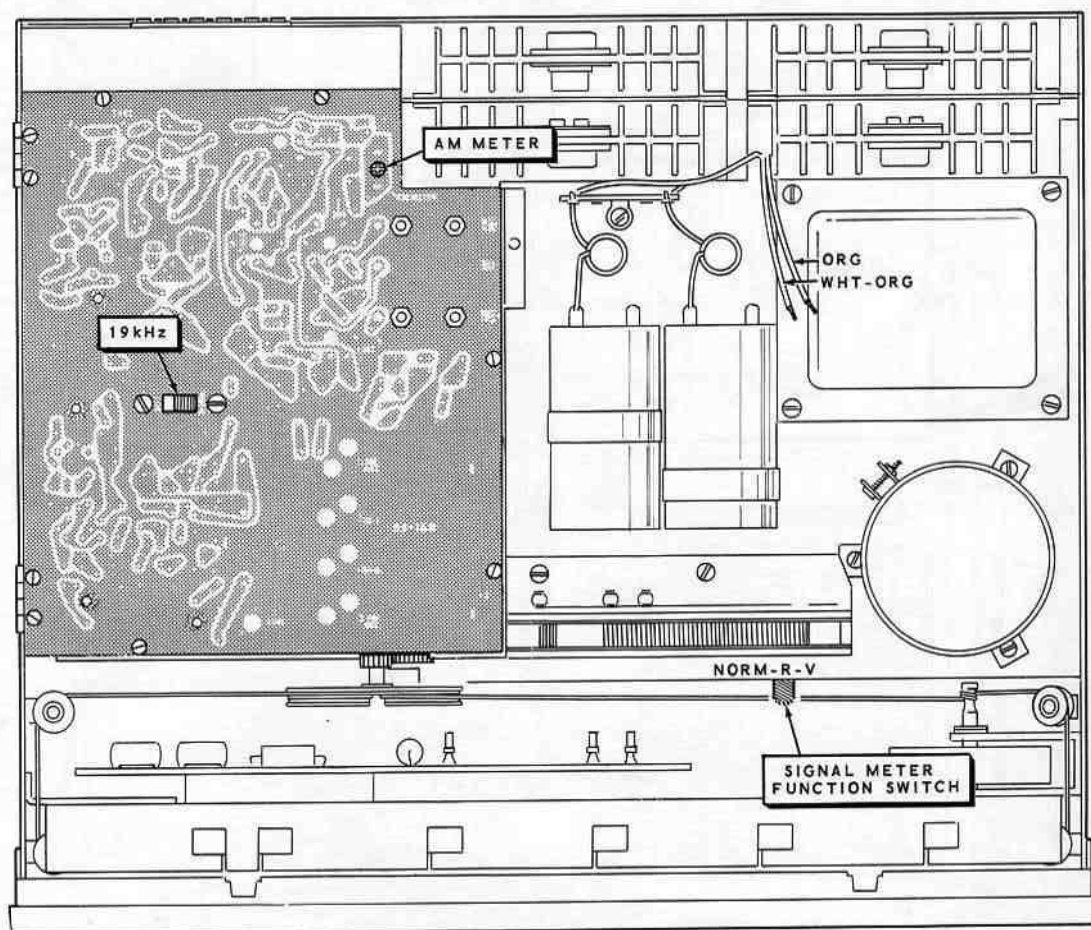
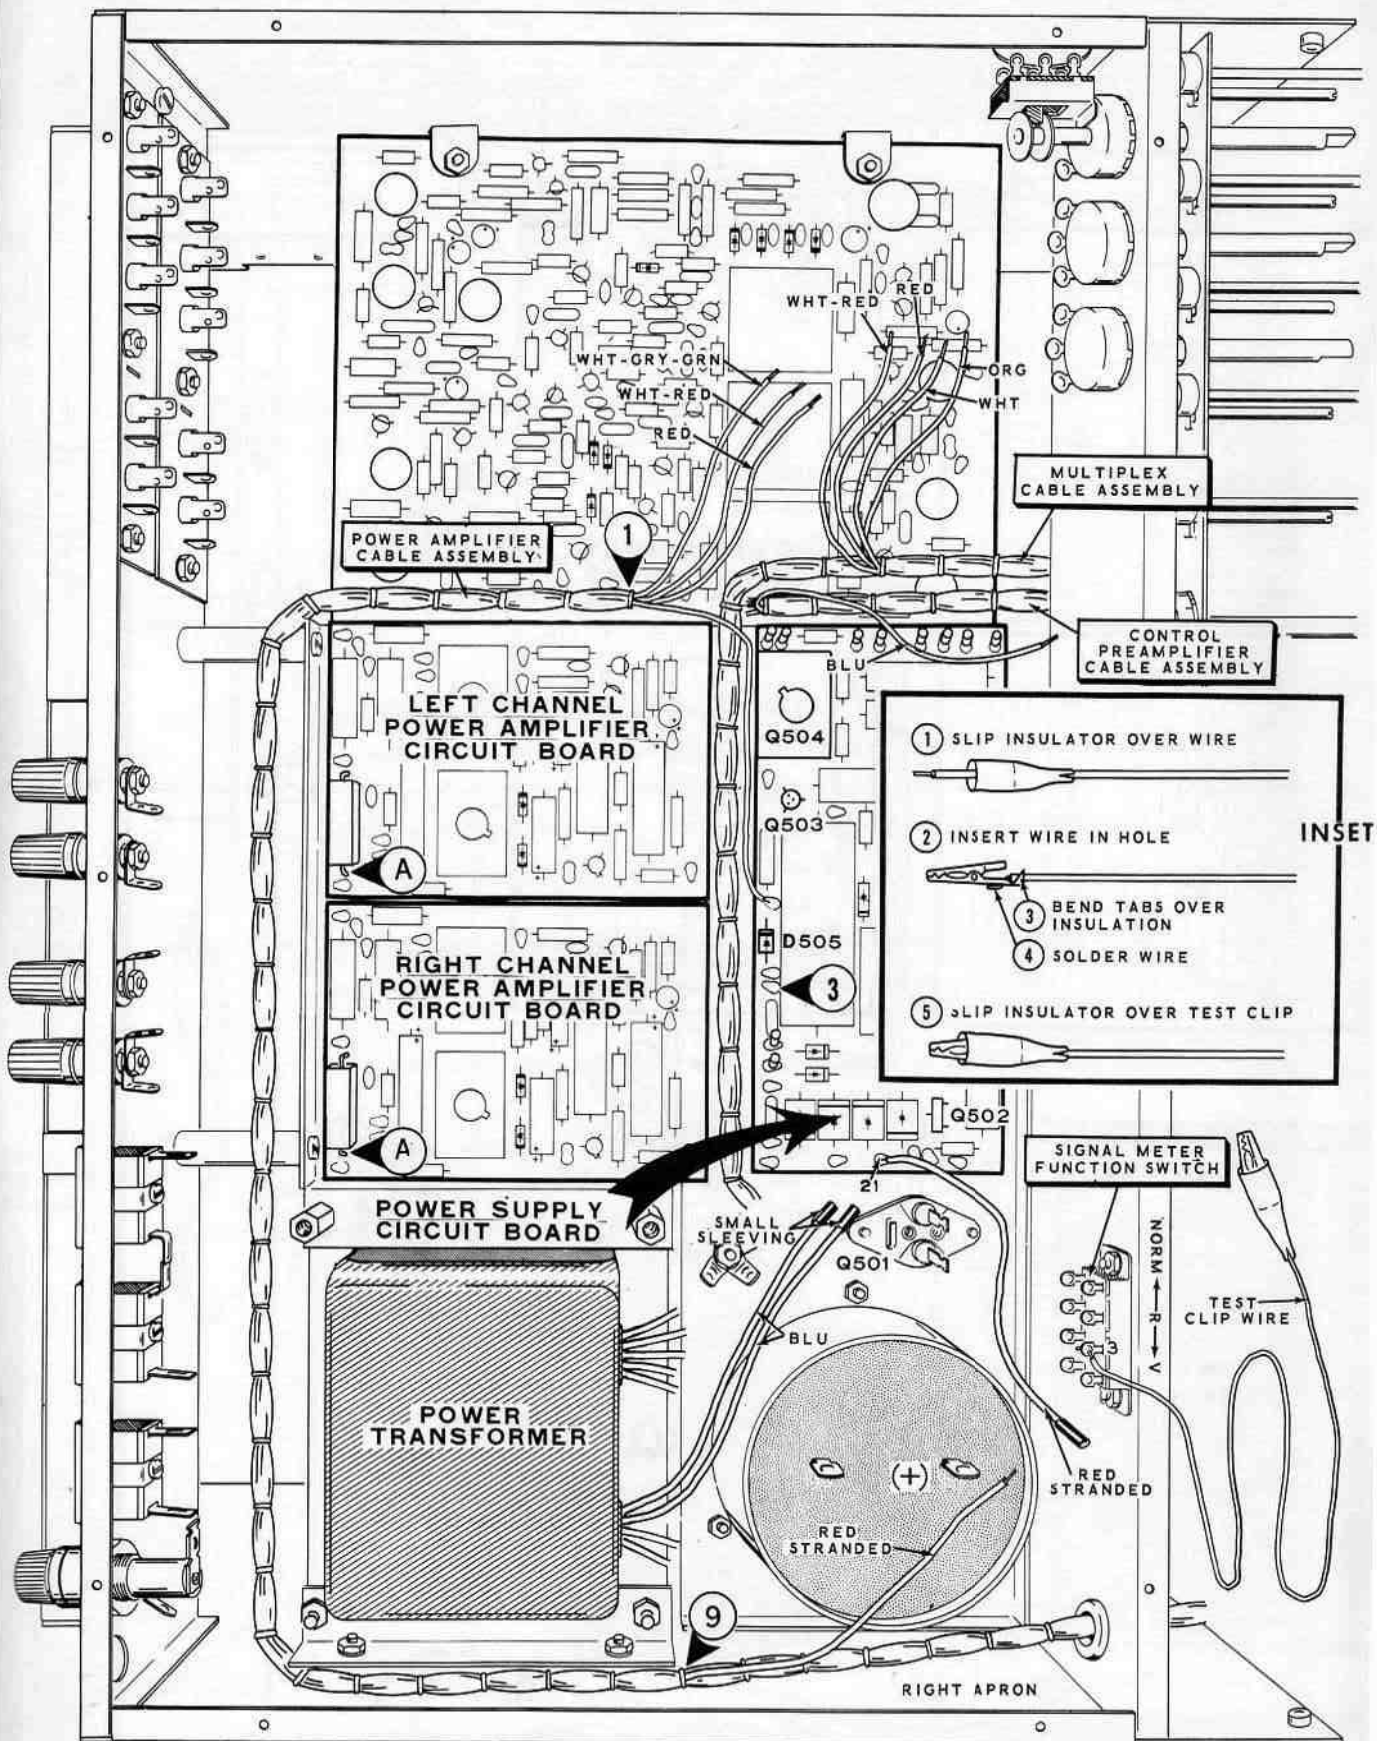

FIGURE 1-2
FIGURE 1-3
Refer to Figure 1-2 (fold-out from Page 115) for the next three steps.
Refer to Figure 1-3 (fold-out from Page 115) for the following steps.
- (✓) Bend back the fourteen unconnected wires so their ends do not touch any metal parts or the circuit boards. Two of these wires are called out by their colors in Figure 1-2 and twelve of them in Figure 1-3.
Refer to Figure 1-3 for the following steps.
- (✓) Install the test clip and insulator on the other end of this red stranded wire. Refer to the inset drawing on Figure 1-3.
In the following checks, you will test the resistance at the ends of the wires shown in Figure 1-3. These wires come from the three cable assemblies and from the chassis mounted parts.